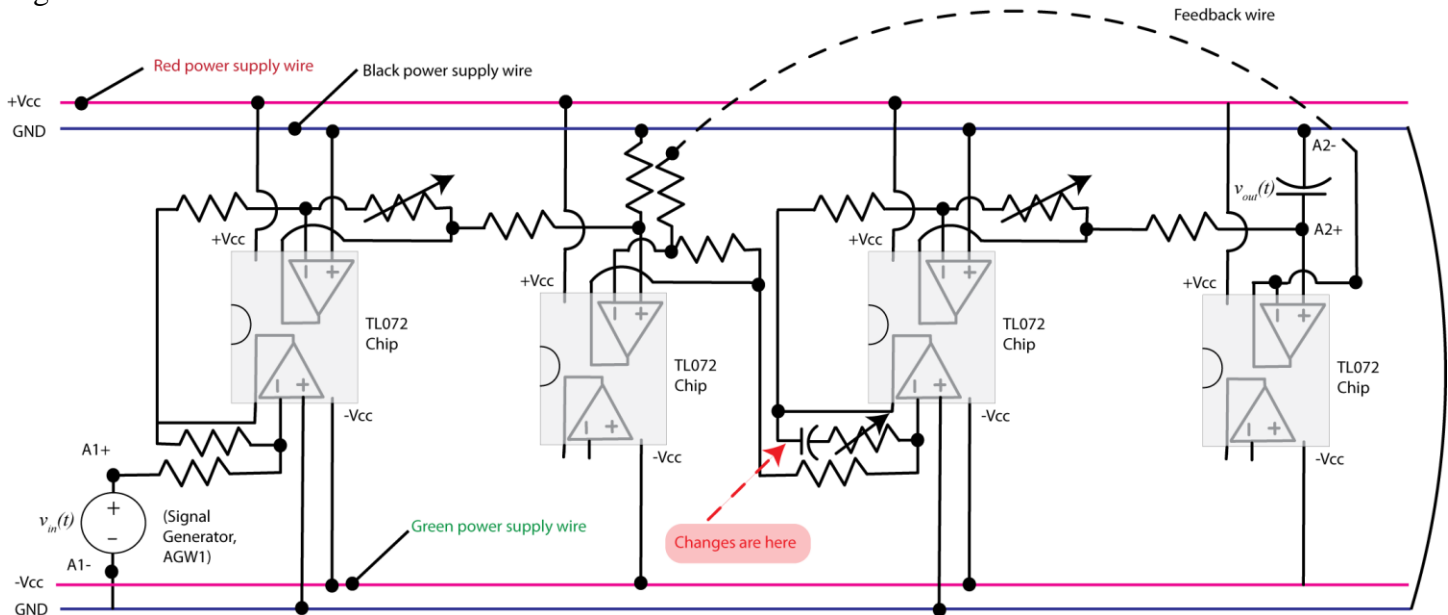

Figure 11. Proportional plus integral controller.
1) Modify the proportional controller circuit by adding a $1 \mu\text{f}$ capacitor and variable resistor, as shown in Figure 11.